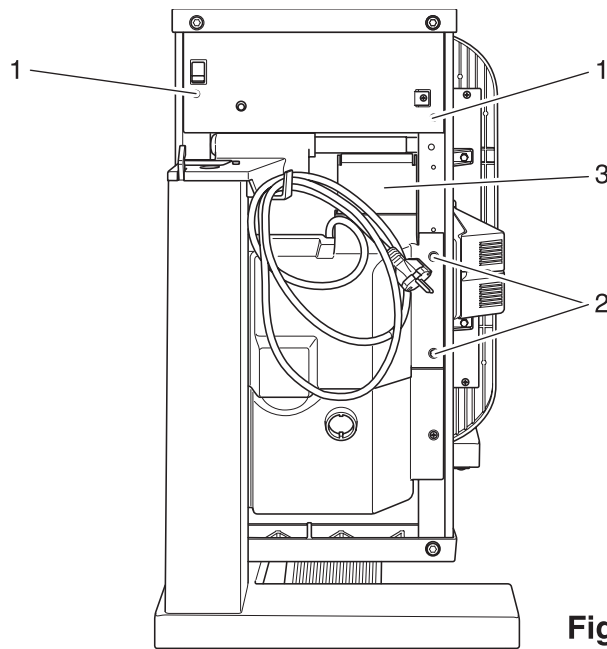

Fig. 7
- Tilt the steam ironer over (fig. 7).